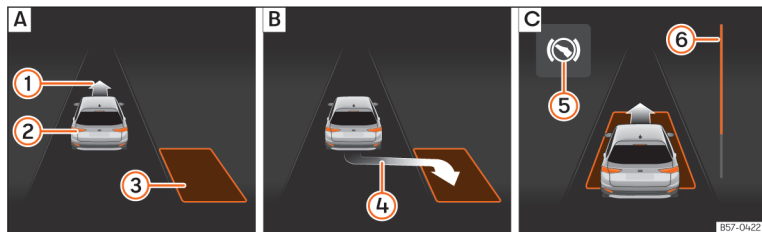
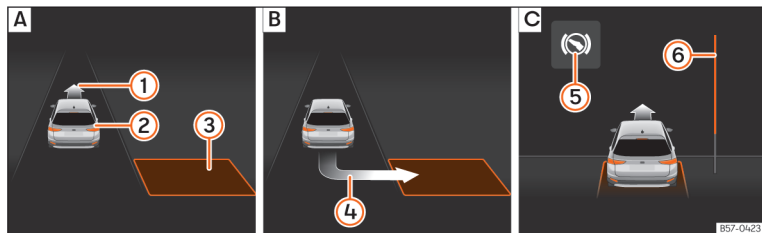

Fig. 203 On the instrument panel display: parallel parking. **[A]** Finding a parking space. **[B]** Parking position. **[C]** Manoeuvring.
Fig. 204 On the instrument panel display: angle parking. **[A]** Finding a parking space. **[B]** Parking position. **[C]** Manoeuvring.
- Look at the display on the instrument panel to see if the space has been detected as “appropriate” and if the correct position for parking has been reached »» Fig. 203 [B] or »» Fig. 204 [B]. The space is considered
- Reverse until the continuous ParkPilot signal sounds; **OR:** reverse until the indication to move forward appears on the instrument panel display »» Fig. 203 [C] or »» Fig. 204 [C]; **OR:** reverse until the **Park Assist finished** message appears on the instrument panel display. The progress bar (6) indicates the distance to cover »» page 288.
- Press the brake pedal until the parking assist system completes the steering wheel turns; **OR:** until the symbol (S) goes out on the instrument panel screen.
- Move forward until the continuous ParkPilot signal sounds; **OR:** move forward until the reverse indication appears on the instrument panel display. The Park Assist system steers the vehicle forward and back until it centres it in the space »» Fig. 203 [C] or »» Fig. 204 [C].
»» Fig. 203 (6) and »» Fig. 204 (6) on the screen of the instrument panel displays the relative distance to be covered. The greater the distance, the fuller the progress bar. When driving forward, the content of the progress bar decreases upwards, and when reversing, it decreases downwards.